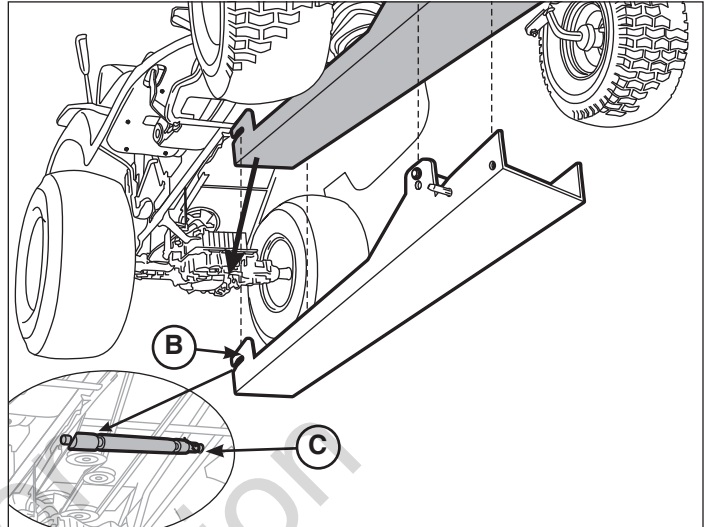

Figure 26
9. At back of tractor, slide reach mounting arms (A, Figure 26) out of the reach support shaft (B). Slide the reach from under the tractor.